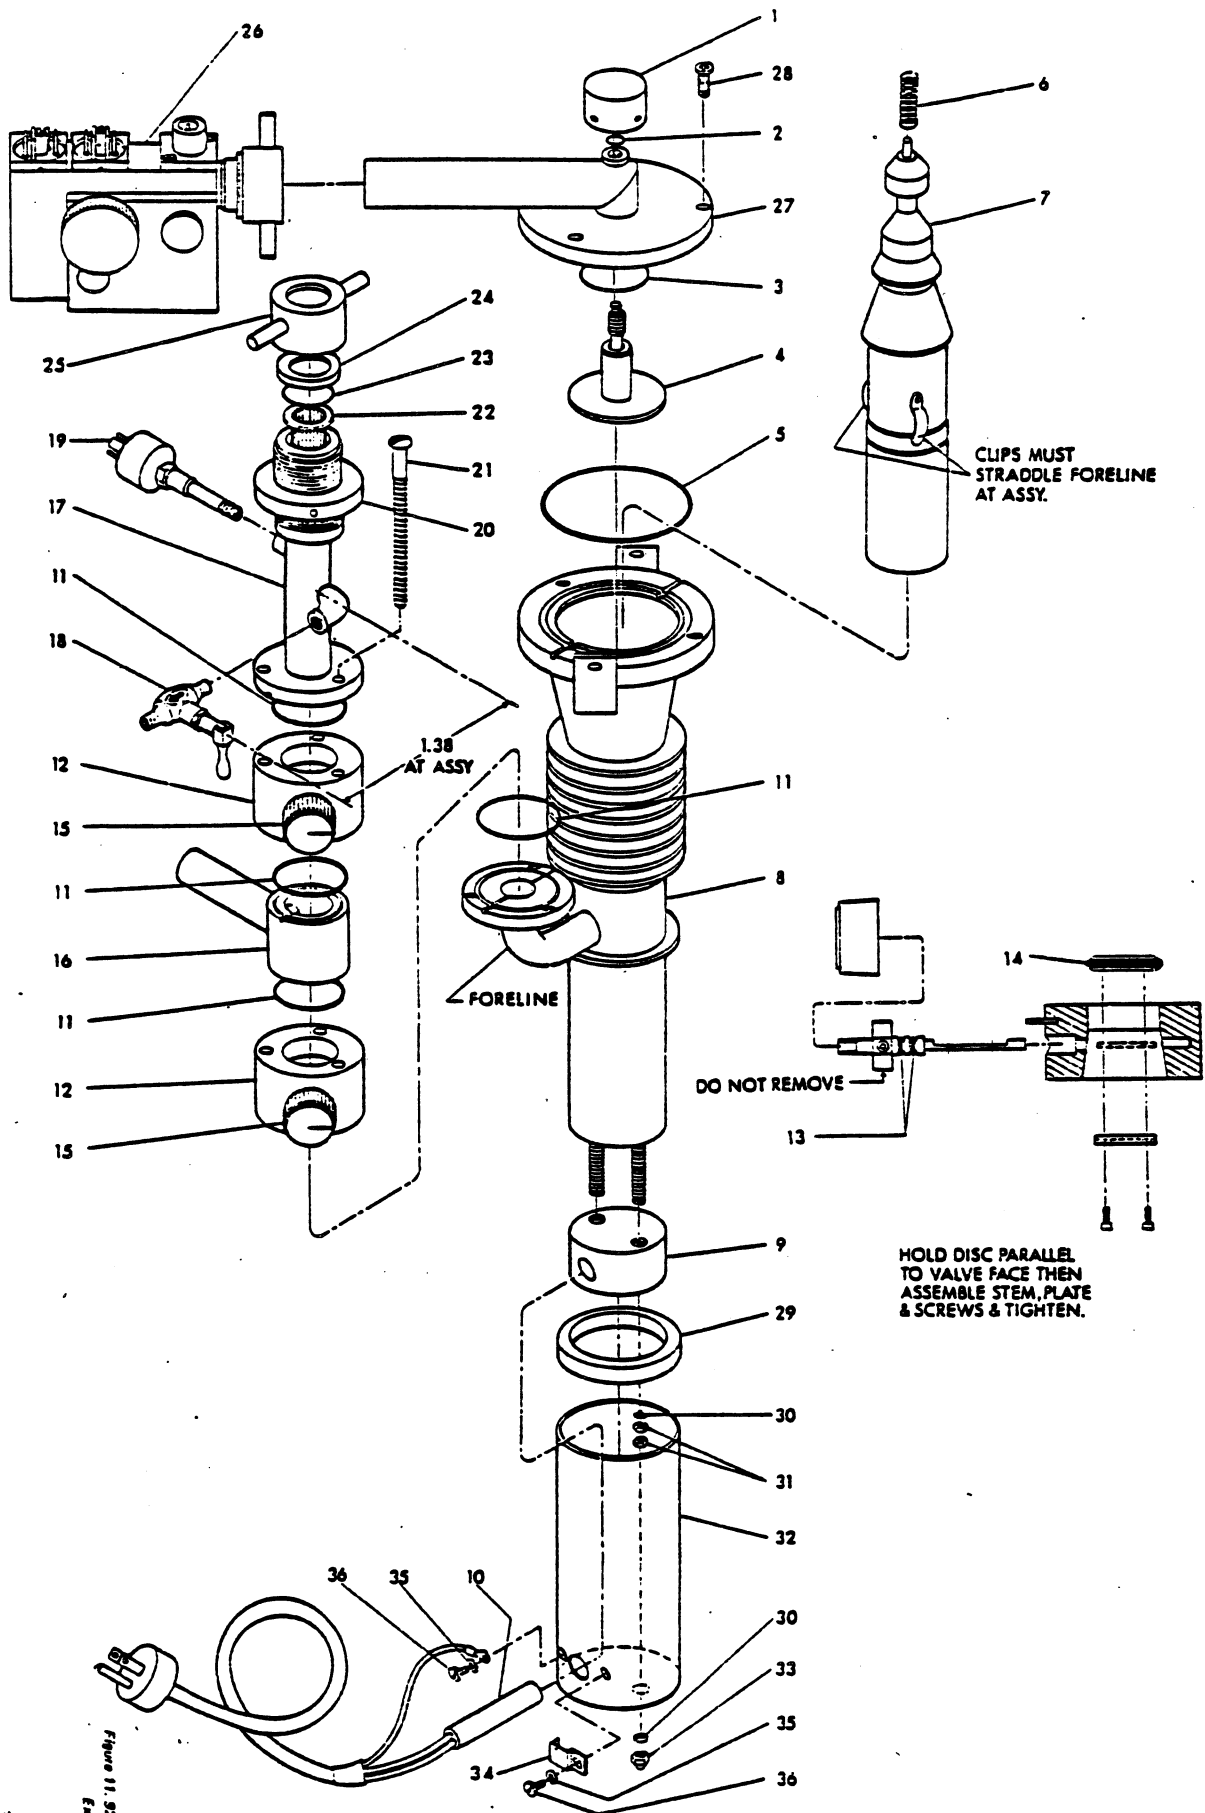

Figure 11, 925-40 Vacuum System, Exploded View
### 5-1.4 Diffusion Pump Oil (Figure 11)
### 5-1.5 Diffusion Pump Heater (Figure 11)
### 5-1.6 Shipping Valve (Figure 11)
### 5-1.7 Vent Valve (Figure 11)
If the vent valve is to be replaced: Remove valve from its fitting; clean the glyptal off the threads of the fitting; recoat the threads with fresh glyptal and screw new valve into the fitting until the distance from the elbow centerline and the valve stem centerline is 1.38 inches, as shown in Figure 11.
### 5-1.8 $V_1$ and $V_2$ (Figure 11)
**PARTS LIST OF ACCOMPANY Figure 11**